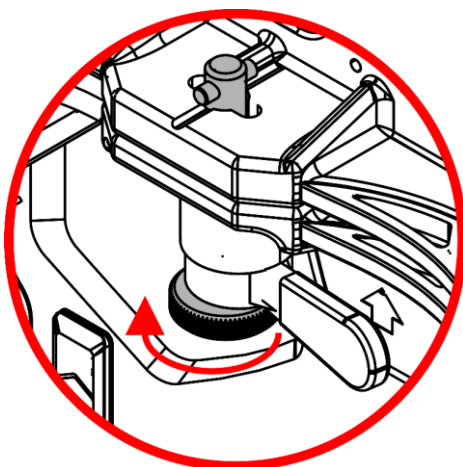

Fig. 26
- 03) Make sure that the pins are firmly locked in the **fast-lock opening (06)**, as shown in Fig. 26.